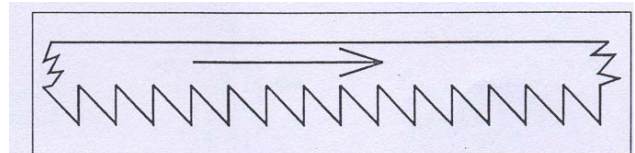

Figure 19. Blade (Tooth) Orientation
6. Slide the new blade into the blade guides, then loop the blade over the upper and lower drive wheels. Install the new blade so the vertical side of the teeth contacts the workpiece first. (Refer to **Figure 19**.)